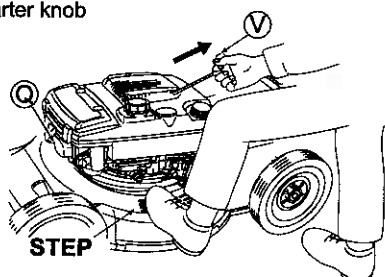

Fig. 12.
- 1 Install Plug cap (Q). (See Fig. 12.)
- 4 To start the engine, step one foot on the step of the housing, lightly pull Starter knob (V) and temporarily stop at a position where you feel heavy to pull the knob (See Fig. 12.), and then powerfully pull it from that position. After that, return Starter knob (V) slowly.